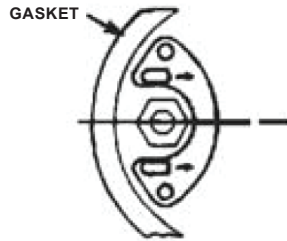

Figure 3. For Types 80S, 81S, 82S, 83S, 21, 22, 23
6. Mount the guide pin assembly with set of two screws provided for use with Spence traps. The guide pins must always point away from the adjoining gasket surface, see Figures 3 and 4.